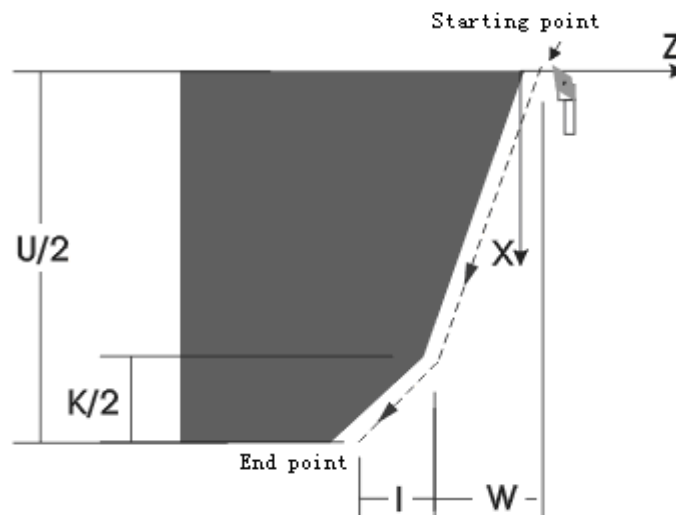

Fig. 4-11
3) G33 end face taper thread: as Fig. 4-11